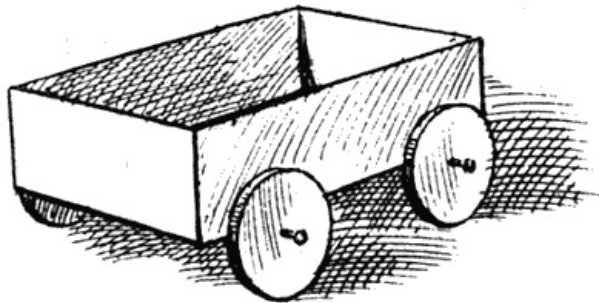

FIG. 23.
*Railway Truck*, consisting merely of the inner part, or tray of a match box, with two match-stick axles glued across the bottom, and four cardboard wheels secured in position by means of "doll pins" (Fig. 23); and then you can proceed to the most elaborate vehicles, bridges, buildings, furniture, machines, &c.